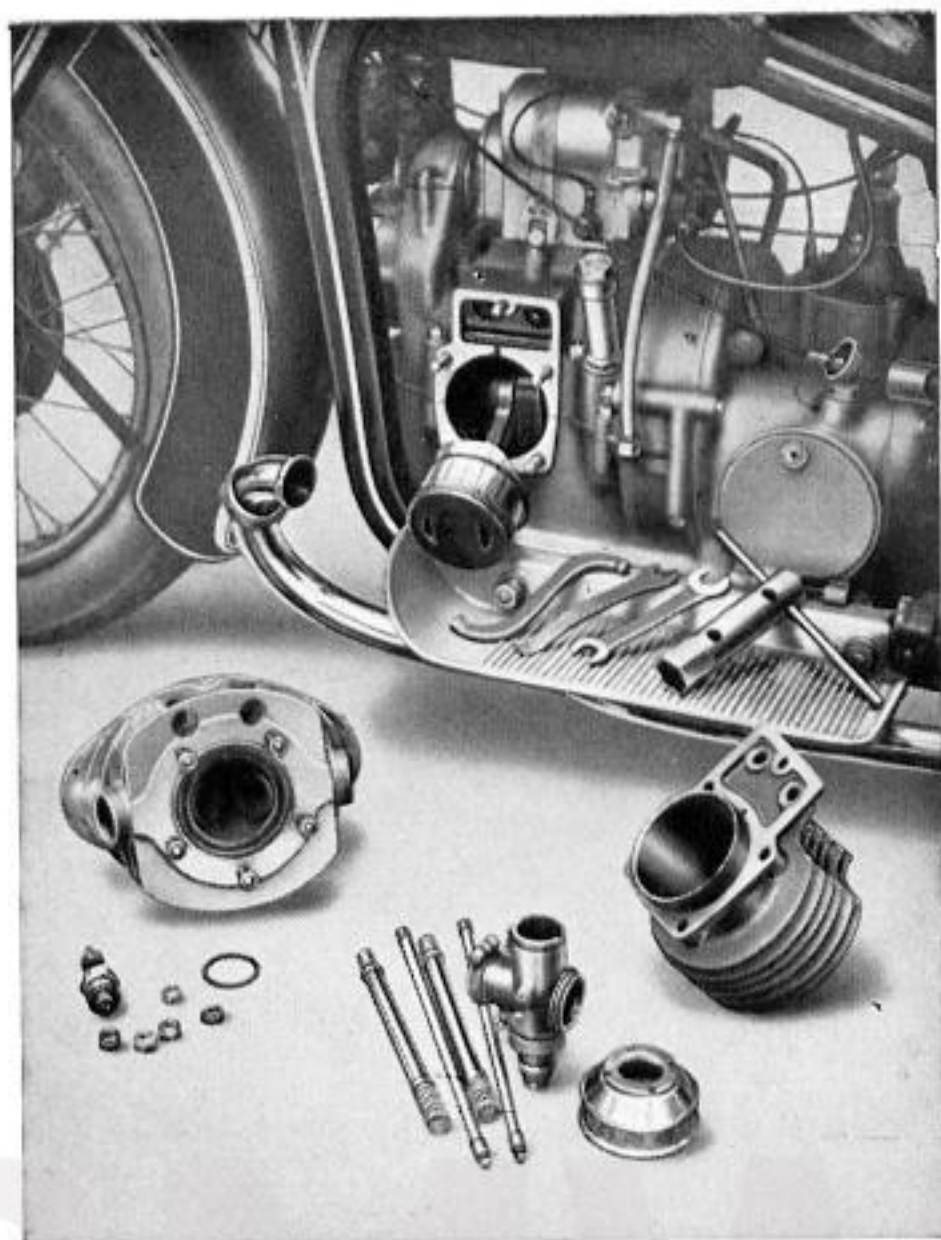
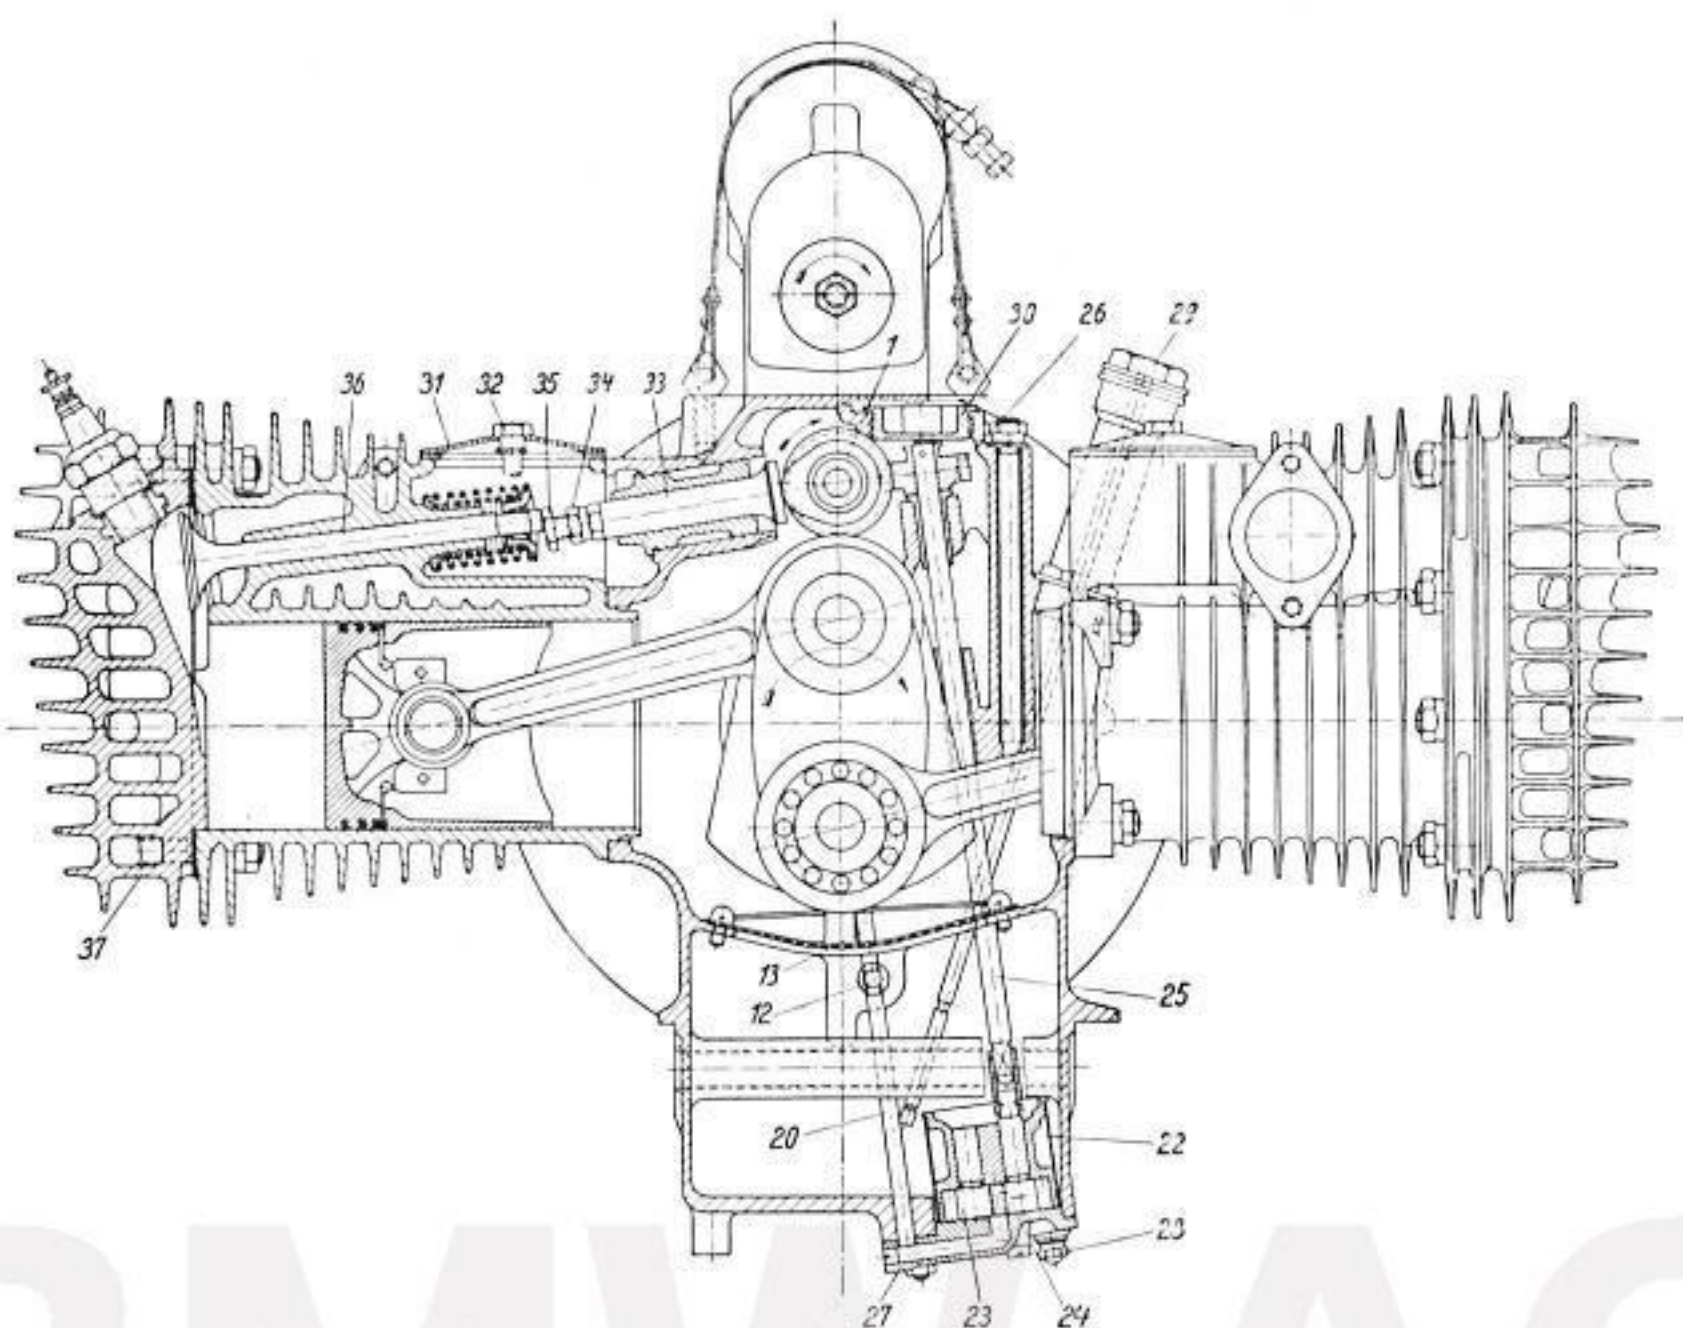

Fig. 13
Fig. 20 Touring engine with partial cross section through the middle of the cylinder
During the running-in period frequent change of oil for the engine is emphatically recommended. **The oil must be drained completely from the crankcase every 300 miles**, the oil filter 17 (fig. 13) must be taken out by unscrewing the six nuts 18 and removing the cover 19, and the casing must be rinsed with rinsing oil. The oil filter must by no means be cleaned with petrol or kerosine.
a) Valves of the R 12 model (fig. 20). The valves are completely enclosed, located at the side of the cylinder and are operated from the camshaft 1 by enclosed tappets 55. Any oil that might leak out at the tappets is conducted back into the casing through a return flow bore, so that any escape of oil outside the engine is made impossible. Through a detachable protective cover the ends of the valve stem and the tappets are easily accessible for the purpose of adjustment of the valve clearance.
The camshaft 1 (fig. 13) supported in plain bearings 2 and 3 above the crankshaft is driven from the latter by the sprockets 4 and 5 which are connected by a silent roller chain. The camshaft also drives through sprockets 6 and 7 the magneto for lighting and ignition by means of a silent chain.
The air breather of the crankcase consists of a rotary slide valve 8 connected by set studs with the sprocket wheel 6 keyed on to the steering wheel 1, the rotary slide valve being supported by the cover 9 of the transmission casing (fig. 13). The air which is compressed in the crankcase on the down stroke of the pistons escapes through the rotary slide valve 8, the cover 9, and through a connection 10 to a piping 11 located outside which conveys the air to the open. In this manner a slight back pressure is always produced in the crankcase which effectively prevents any escape of oil at the joints of the casing.
A rotary geared pump (fig. 20) built in the lower part of the crankcase sucks the oil through a filter 22 by the action of the two gear wheels 23 and 24, the latter of which is driven by means of a shaft 25 and worm wheel 26 by the worm on the camshaft 1.
The oil is pressed into the rising pipe 20 through a bore in the cover 27, and enters the oil distribution pipe 12 (figs. 13 and 20) and from there through the vertical oil pipes 13 and the finely bored oil jets 14 to the bushes 15 and 16 (fig. 13) to lubricate the crankshaft roller bearings. Part of the oil enters the distributing grooves of the bushes, from where it is then con-
Part of the oil is conducted by the oil pump into the oil filter 17 through rising pipe 20 (fig. 20), oil distributing pipe 12, and oil jet 21 (fig. 13) and leaves it completely purified to be conducted back to the oil pump through the oil well.
With the yearly overhaul this cleaning must be attended to under all circumstances. When replacing care must be taken that the recesses of the ball bearing bushes 15 and 16 coincide with the oil jets 14 of the rising piping 13, as otherwise the oil supply to the bearings is interrupted (fig. 13).
Important. Before dismantling the halves of the crankcase the screw plug 30 must be removed; then pull out the driving shaft 25 with worm wheel 26 by means of flat pliers (fig. 20).